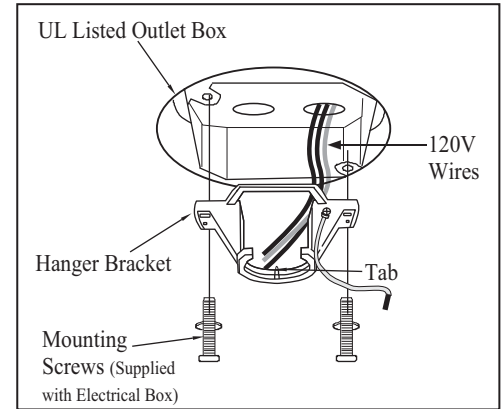

Figure 10
1. Pass the 120-volt supply wires through the center hole in the hanger bracket as shown in Figure 10.
2. Install the hanger bracket on the outlet box with the screws and washers provided with your outlet box. (Figure 10)